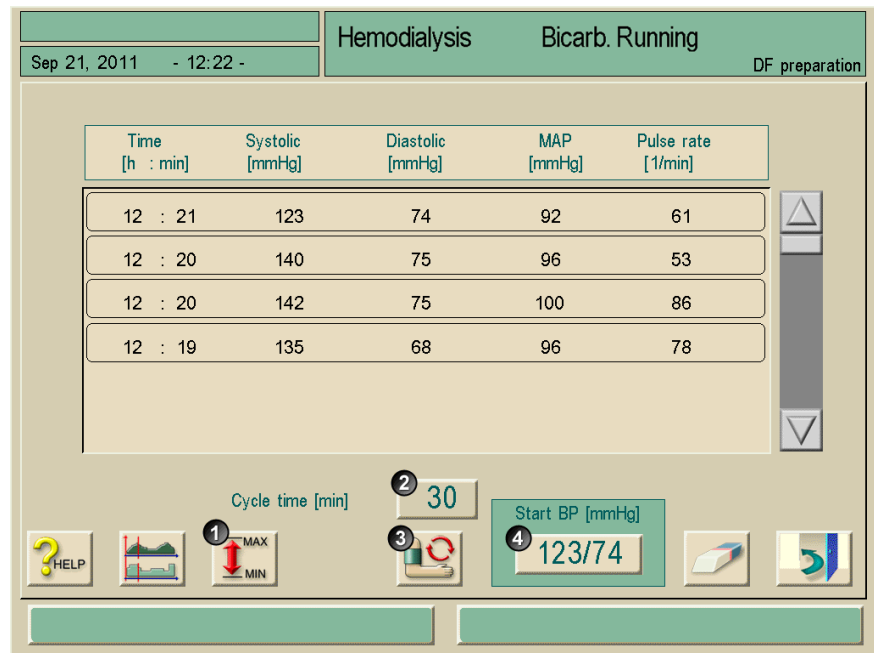

Fig. 10-2 "ABPM main view" screen
➤ To view and set the alarm limits, touch icon 1 (Fig. 10-2).
- Touch field 1 on the "Therapy" screen and field 4 in the "ABPM main menu" window (Fig. 10-2).
➤ Touch icon in "ABPM main menu" window (Fig. 10-2).